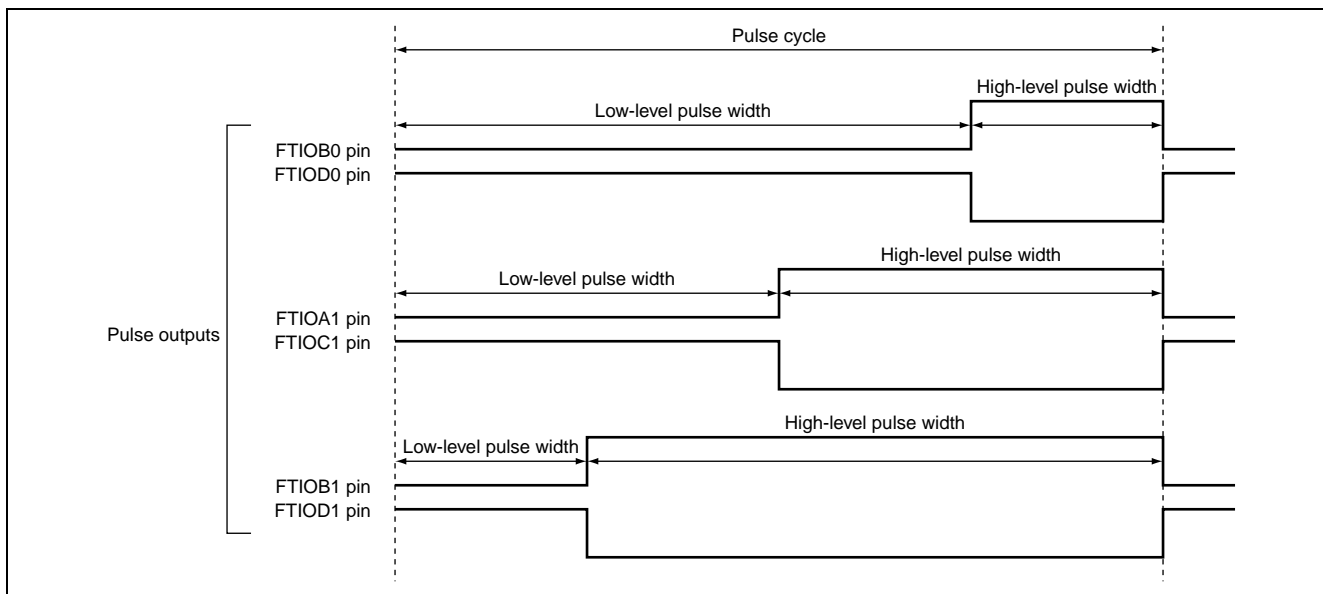

Figure 1.1 Output of Three Normal-Phase/Inverse-Phase Pairs with Independently Controllable Duty Cycles
- 2. This sample task involves controlling the H8/3687 to produce outputs of the form shown in figure 1.1: that is, three PWM waveforms, each of which has a controllable duty cycle but the same period, with both normal- and inverse-phase versions of each waveform. The duty cycle is controlled through control of the high-level pulse width.